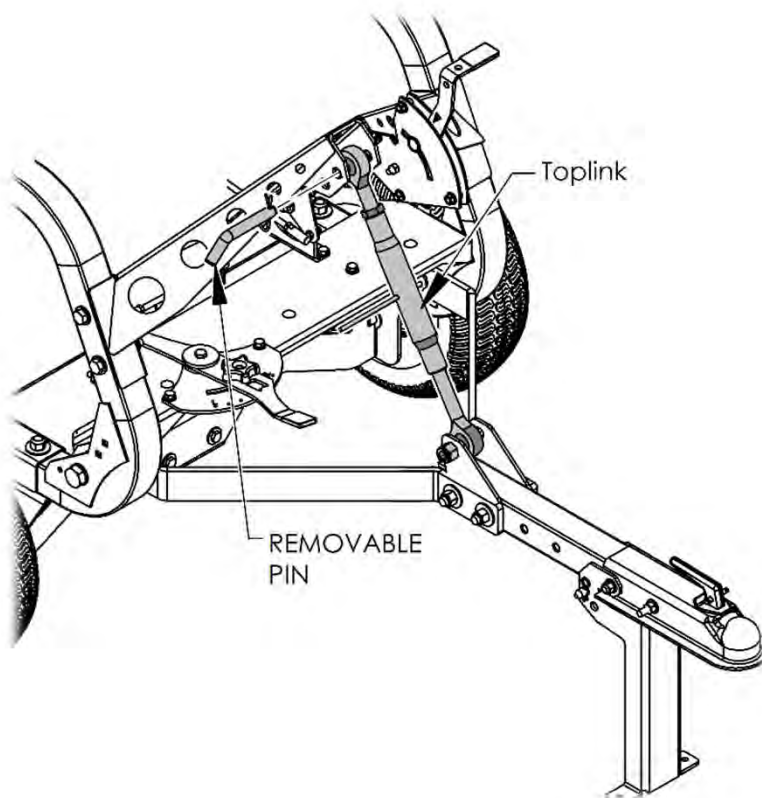

FIGURE 22.1
- Remove the Removable Pin from the top link located next the Flow Control Handle . This will Allow the Hopper to lower and become easier to access for cleaning. **See FIGURE 22.1 & 22.2**